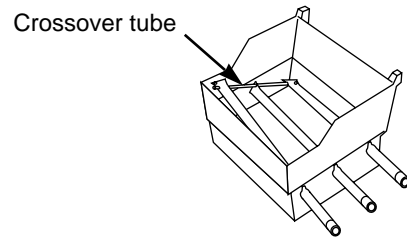

Figure 12
- g) Lift and twist the burner assembly slightly, to separate the crossover tube from the burners. Figure 12. Remove the burners from the cooking box.